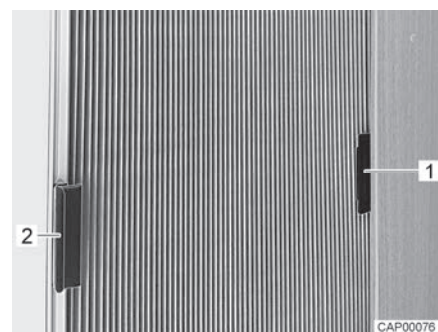

Fig. 6 Roman shade for side pane (closed)
- Push the handle (Fig. 6,1) of the Roman shade into the cap (Fig. 6,2). Thus, the Roman shade is secured against closing involuntarily.